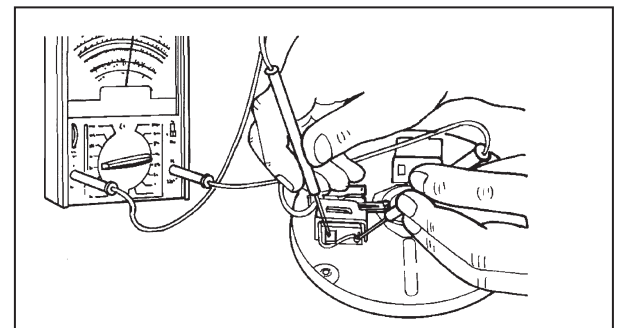

Figure 4.26
7. Test overload protector with ohmmeter (see Figure 4.26). Disconnect black stator lead wire and push in red button to engage overload protector and place ohmmeter probes on terminal and wire connector - there should be continuity (gauge needle moves). Replace overload protector if test shows no continuity.